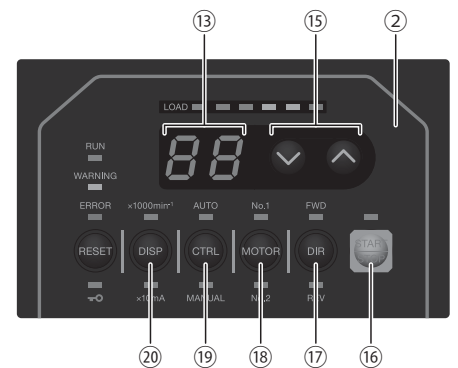

Fig. 20
15 - 2 Select Control Mode (MANUAL / AUTO). (Select the Control Button (CTRL) ⑱ of the Fig. 20.)
- (1) Using the Control Button (CTRL) ⑱, you can switch the operation mode for starting / stopping the Motor, setting rotation direction, motor speed and the like.
- (1) Setting Motor Rotating Direction
Set Motor Rotating Direction (Set the Rotation Direction Button (DIR) ⑱ of the Fig. 20.)
- (2) Motor Selection
Select the motor spindle to be controlled. (Motor Spindle Selection (MOTOR) Button ⑱ of the Fig. 20.) If motor spindle No. 1 was selected, No. 1 LED turns on. If motor spindle No. 2 was selected, No. 2 LED turns on.
- (3) Motor Start / Stop (Motor Start / Stop by pushing the START / STOP Button (START / STOP) ⑱ of the Fig. 20.)
(4) Setting Motor Speed
Setting Motor Speed (Set the Motor Speed Adjustment Button (SPEED  , ) ⑮ of the Fig. 20.)